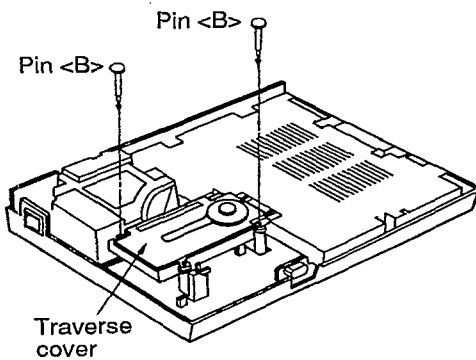

Figure 2
- (1) After removing the top case, remove the two pins as shown in figure 2.